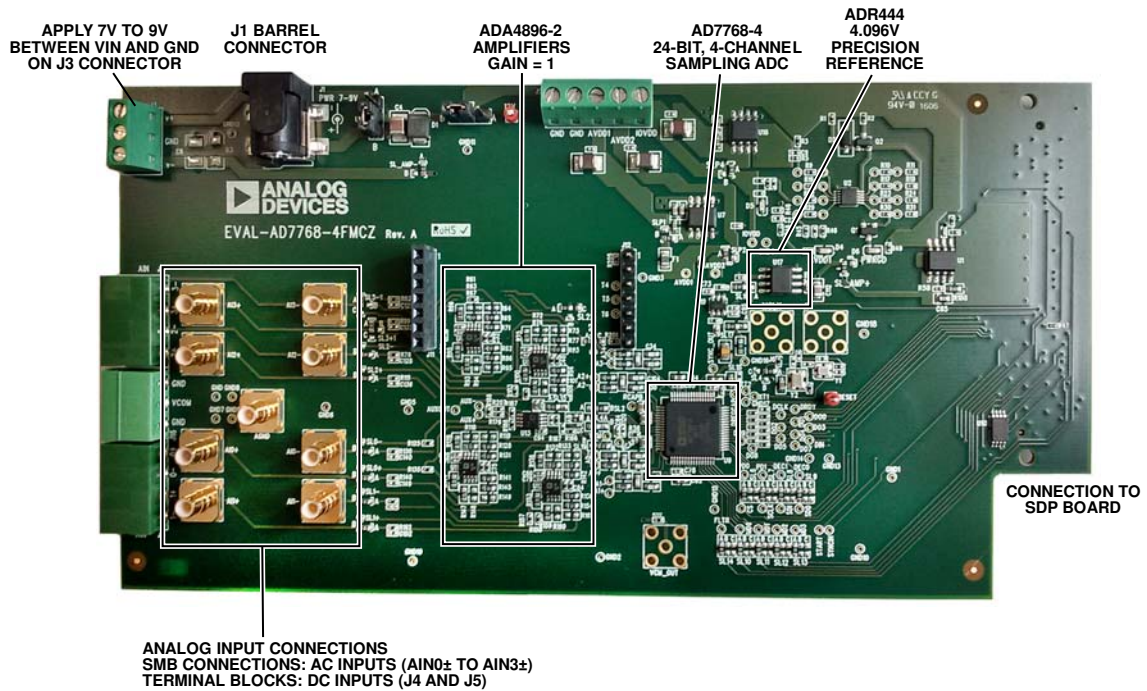

Figure 1. EVAL-AD7768-4FMCZ Evaluation Board
2. Connect the SDP-H1 board to the evaluation board (unpowered). Figure 1 illustrates the connection: J4 of the SDP-H1 board adapts to the receiving socket on the EVAL-AD7768-4FMCZ printed circuit board (PCB).
As shown in Figure 1, the  $A_{IN}0\pm$  to  $A_{IN}3\pm$  analog inputs are accessible through either the SMBs or the terminal blocks.